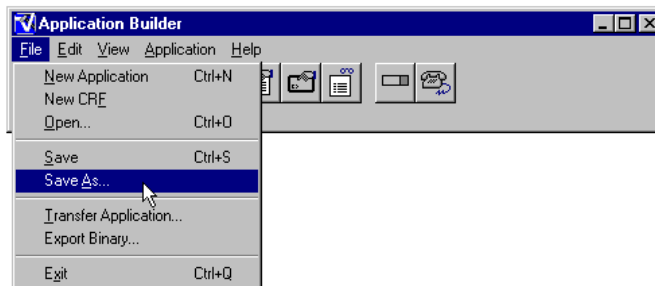

Figure 1-35 File Menu - Save As Command
8. Choose **Save As** from the **File** menu (Figure 1-35).